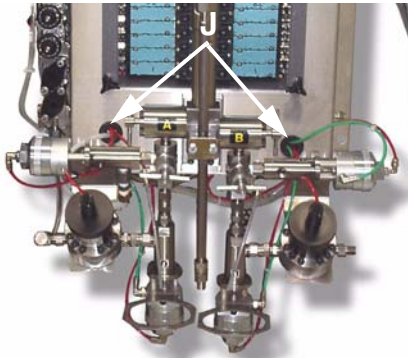

FIG. 19
- Route the signal cables through the Smart Fluid Panel holes (J - FIG. 19) and into the enclosure through the strain reliefs (GG - FIG. 20). Leave enough slack in the cable so the enclosure (K) can be raised for service.